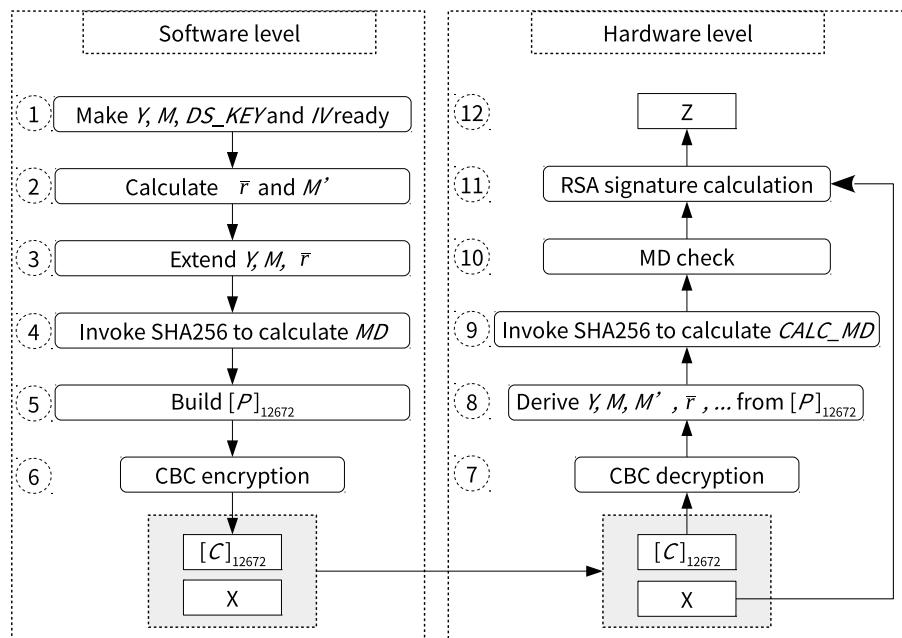

Figure 22.3-1. Software Preparations and Hardware Working Process
The left side of Figure 22.3-1 lists preparations required by the software before the hardware starts RSA signature calculation, while the right side lists the hardware workflow during the entire calculation procedure.
1. The software preparation (left side in the Figure 22.3-1) is a one-time operation before any signature is calculated, while the hardware calculation (right side in the Figure 1-1) repeats for every signature calculation.
Users need to follow the steps shown in the left part of Figure 22.3-1 to calculate C . Detailed instructions are as follows:
1. Decryption: Step 7 and 8 in Figure 22.3-1
The decryption process is the inverse of Step 6 in figure 22.3-1. The DS peripheral will call AES accelerator to decrypt C in CBC block mode and get the resulted plaintext. The decryption process can be represented by $P = \text{AES-CBC-DEC}(C, DS_KEY, IV)$, where IV (i.e., $[IV]_{128}$) is defined by users. $[DS_KEY]_{256}$ is provided by HMAC module, derived from $HMAC_KEY$ stored in eFuse. $[DS_KEY]_{256}$, as well as $[HMAC_KEY]_{256}$ are not readable by users. For more information, please refer to Chapter 21 HMAC Accelerator (HMAC).
2. Check: Step 9 and 10 in Figure 22.3-1
The DS peripheral will perform two checks: MD check and padding check. Padding check is not shown in Figure 22.3-1, as it happens at the same time with MD check.
3. Calculation: Step 11 and 12 in Figure 22.3-1